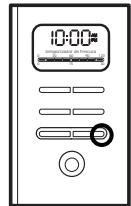

Figure 10
- Press the clean “Limpiar” button until the clean “Limpiar” indicator light turns on (Figure 10). For your convenience the cleaning cycle is automatic. The entire cycle will take 45–60 minutes to complete.